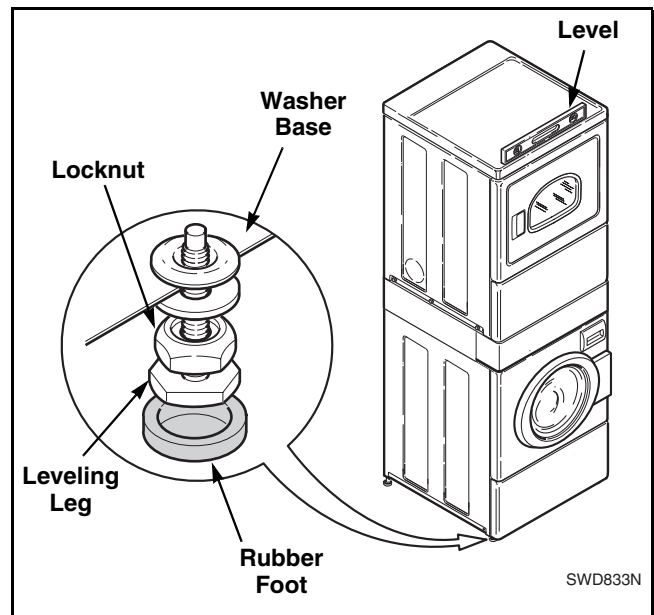

Figure 3
NOTE: Level must be on a raised portion of top panel. Refer to *Figure 3*.
- Loosen locknuts and adjust the leveling legs until the unit is level from side to side and front to back (using a level). Make sure unit **does not rock**. Refer to *Figure 3*.
- Place rubber feet on all four leveling legs. Refer to *Figure 3*.